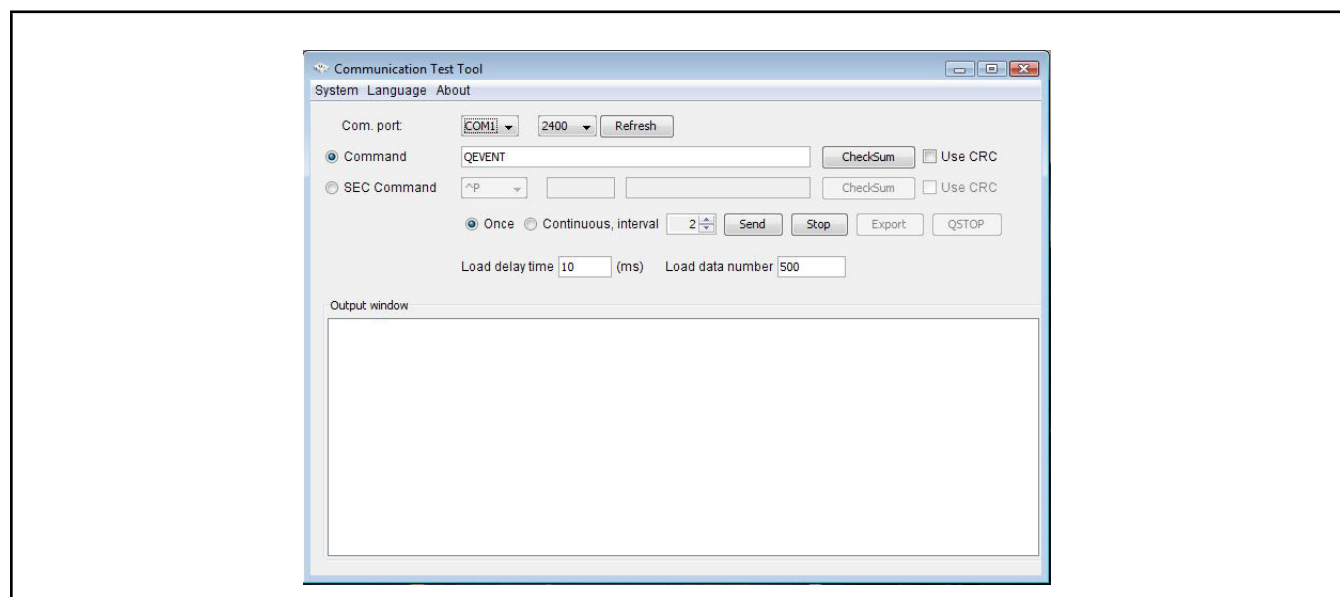

Figure 7.2 Communication Test Tool software interface
1. Connect the RS232 port of the UPS to the RS232 port of the computer with RS232 cable. Open Communication Test Tool software. You will see software interface as shown in Figure 7.2.